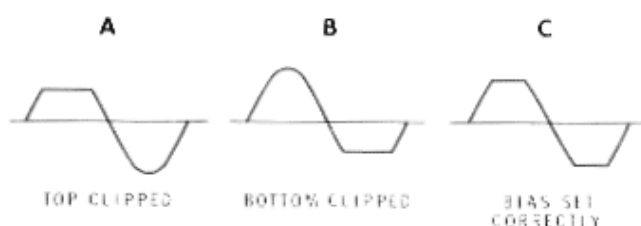

Figure 2
- () Rotate the FEEDBACK control fully clockwise. Note that the positive or negative half of the waveform is clipped as shown in part A or B of Figure 2.
- () Adjust the BIAS control so both halves of the waveform are clipped equally, as shown in Part C of Figure 2.